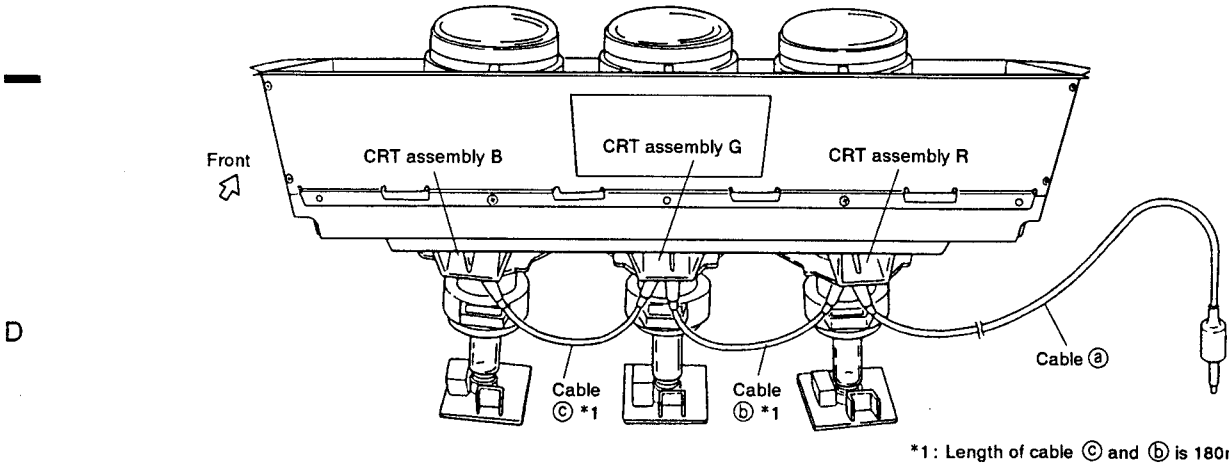

Fig. 5-1 Connection diagram of the each CRT assemblies
The anode cables of the CRT assembly R, G, and B in PROJECTION MONITOR RECEIVER are connected in series as shown in Fig. 5-1.
- Join the cut anode cable and the new anode cable to restore as shown in Fig. 5-1. Also, when replacing the FBT, refer to page 18 in Adjustment information.